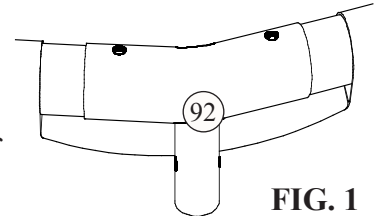

FIG. 1
2. Locate the metal pipe and Tee Fittings for the frame section of the pool. The shorter pipe sections with the larger diameter and the pair of holes at both ends are the Horizontal Beams (91). The longer pipe sections with the smaller diameter and the Spring Pin (95) at one end are the Vertical Legs (94). Take the Horizontal Beams (91) and insert them into the pockets stitched along the top edge of the pool wall. Rotate it in the pocket so that the holes are on the top and bottom of the pipe protruding from each end of the pockets. Take one end of the pipe and insert it into a Tee Fitting aligning the holes with the holes in the Horizontal Beam. Do NOT install any of the Pins (93) at this time. Continue around the pool in either direction installing all of the Tee Fittings onto the Horizontal Beams. See Fig 1.